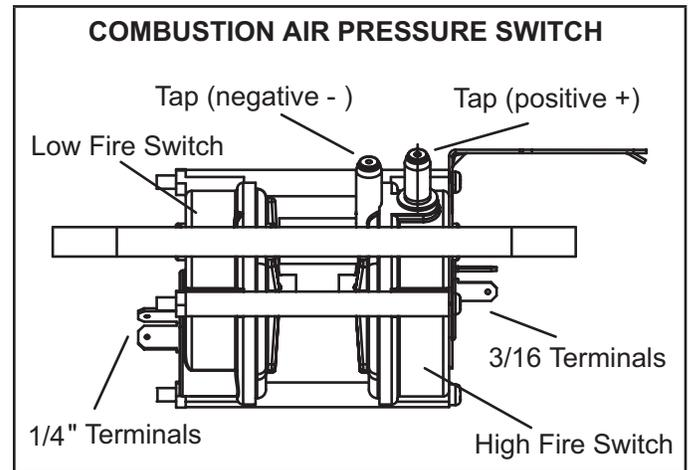

FIGURE 16
EL297DFV(X) series units are equipped with a dual combustion air pressure switch (first and second stage) located on the combustion air inducer orifice bracket. See FIGURE 16. The switch is connected to the combustion air inducer housing by means of a flexible silicone hose. It monitors negative air pressure in the combustion air inducer housing.